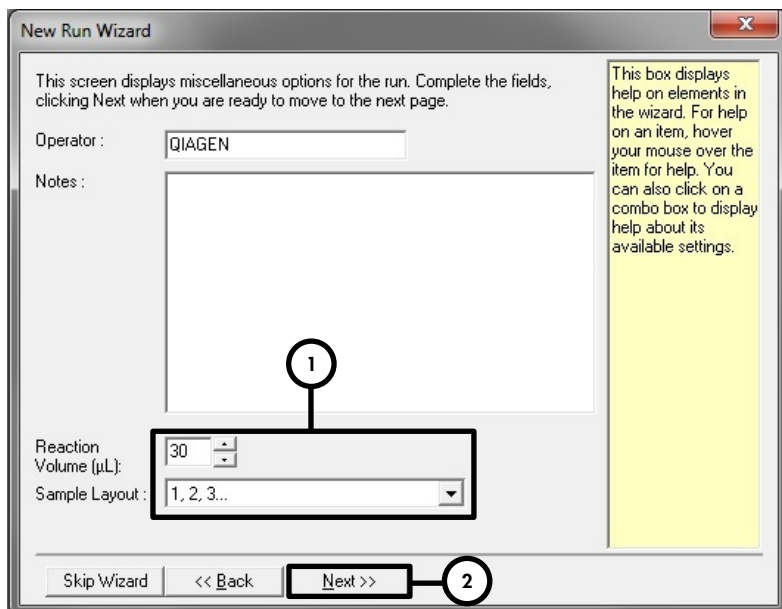

Figure 3. Setting the general assay parameters.
8. Select **30** for the PCR reaction volume and click **Next** (Figure 3).